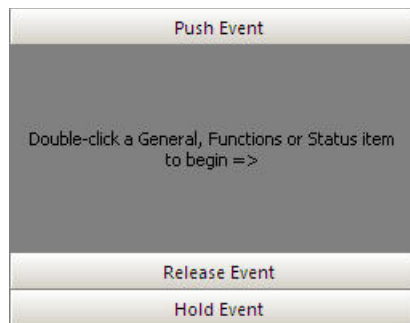

FIG. 225 CodeBuilder - Event window
5. In the Event window, there is a tab for each Event Handler that was selected in the *Button Event Options* dialog (FIG. 225):